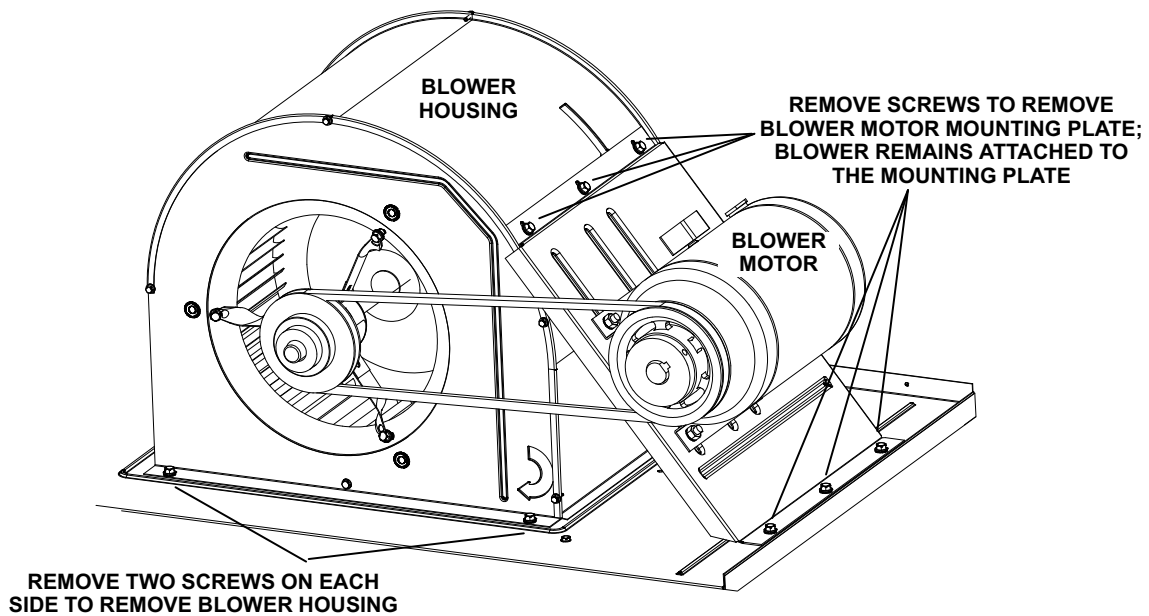

FIGURE 8
- 2- Remove the motor mounting plate; do not remove the motor from the mounting plate. See figure 8.
- 3- Remove six screws securing blower housing in place. See figure 8. Pull the housing forward and tip the back upward to remove from unit.